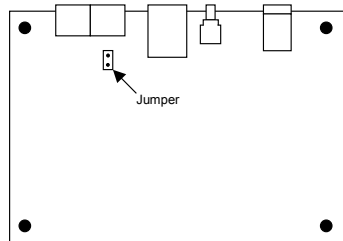

Figure 13 - Jumper Positioning
4. position the jumper as shown in Figure 13;